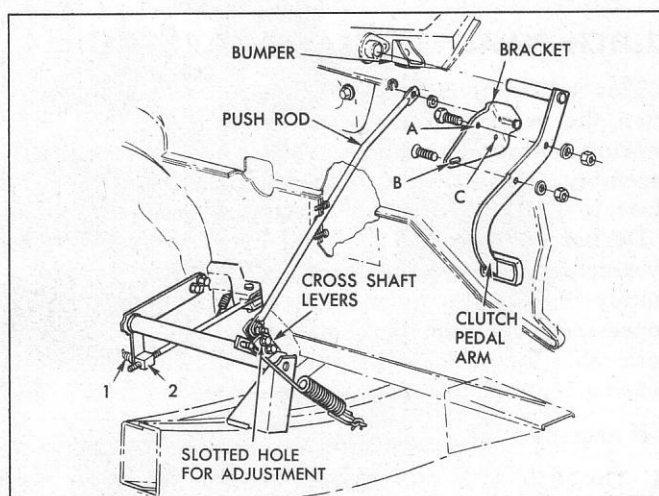

Fig. 7—Pedal Repositioning Adjustment
3. Loosen push rod bracket to pedal lower attaching bolt (in slotted hole "B", Figure 7).
6. Install clutch pedal push rod so the bend (as shown in Figure 7) is in opposite direction from its previous installed position.